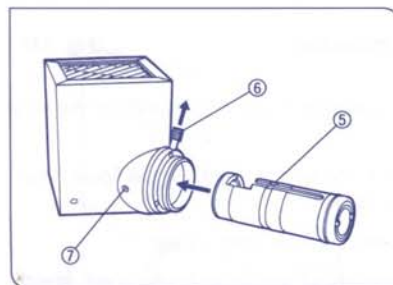

Fig. 11
1. Aligning the collector lens unit positioning groove ⑤ with the pin inside the lamp housing, pull up the collector lens focusing knob ⑥, and slide the collector lens unit into the lamp housing as far as it will go. Then release and return the collector lens focusing knob ⑥ to its original position. At this point, confirm that the collector lens can be moved back and forth by turning the focusing knob ⑥. If not, adjust the position of the collector lens with a hand so that it will click into its proper position.
2. Tighten the collector lens unit clamping screw ⑦. (Fig. 11)